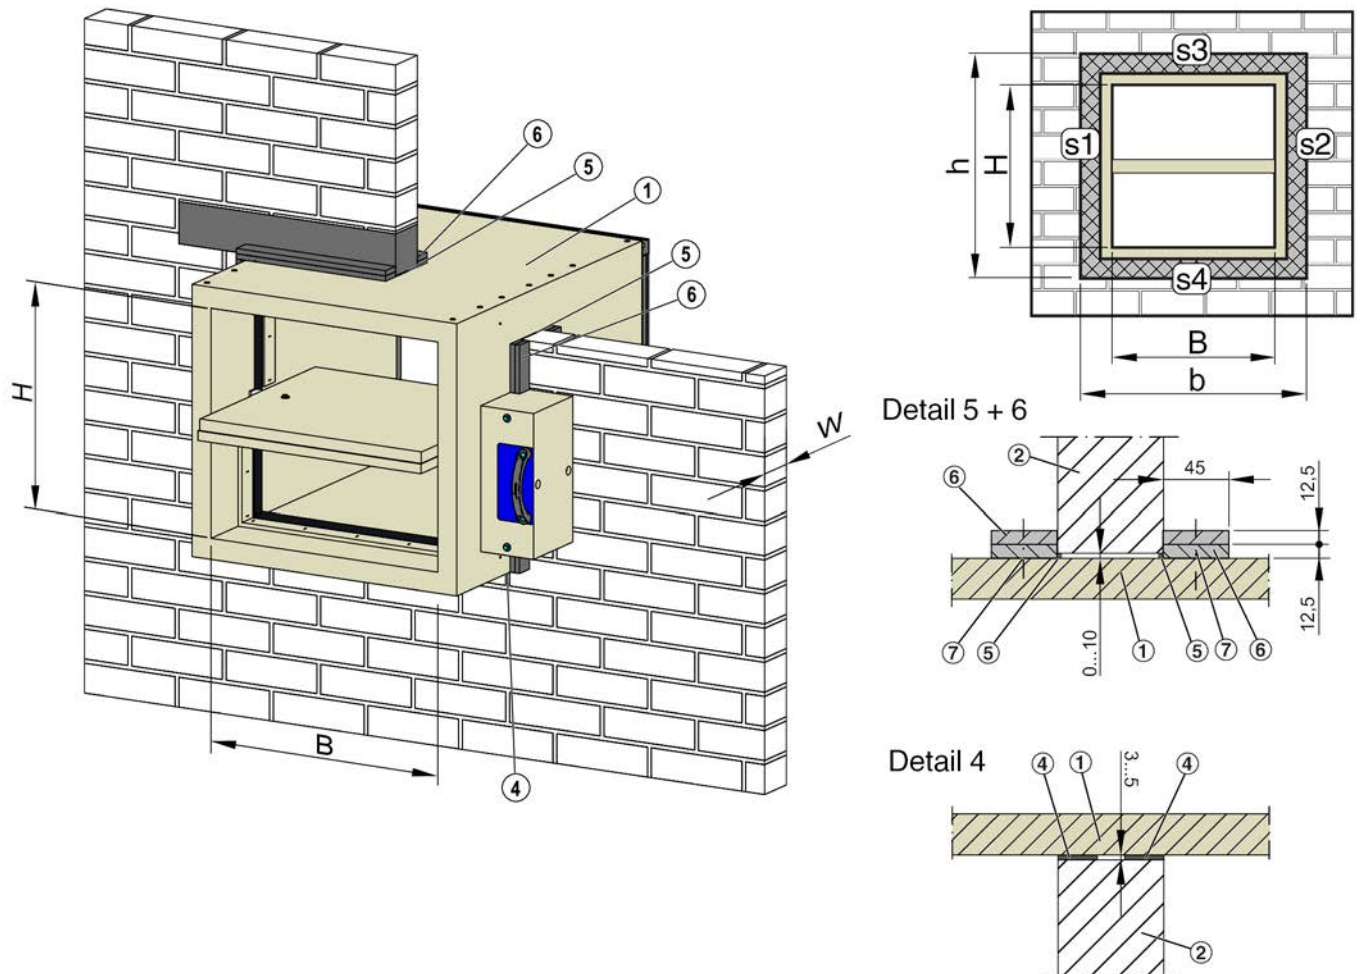

Fig. 12: Dry mortarless installation in solid wall, installation variant b, classification index: v_{ew}
1. ▶ Create an installation opening according to Fig. 12 .